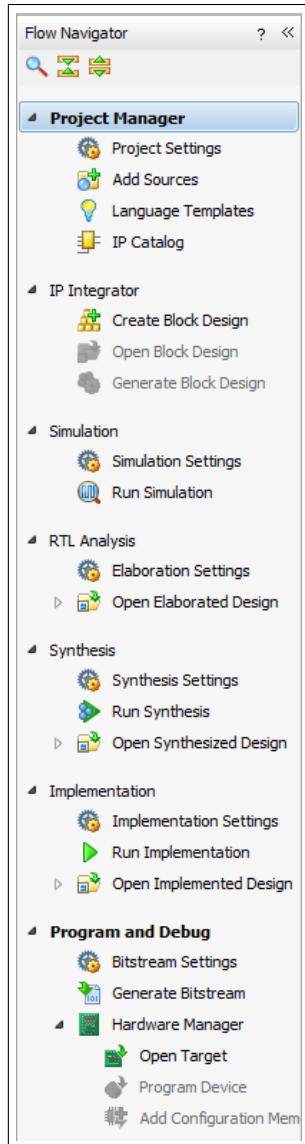

Figure 6.8: Flow Navigator
Now, you'll see the "Project Manager" screen. Pull your source code in /punc over to the lab computer via flash drive, your H:/ drive, or a Dropbox-like service. In the left-hand "Flow Navigator" menu, shown in Figure 6.8, click the "Add Sources" button.
1. **Synthesis:** Select “Run Synthesis” in the “Flow Navigator”, shown in Figure 6.8. If there are any major errors causing failure, resolve them and try again. Note: There may be a few warnings about disconnected ports, but you shouldn’t have to worry about those. If Synthesis is successful, a window will appear. From here, you will choose to “Run Implementation”.